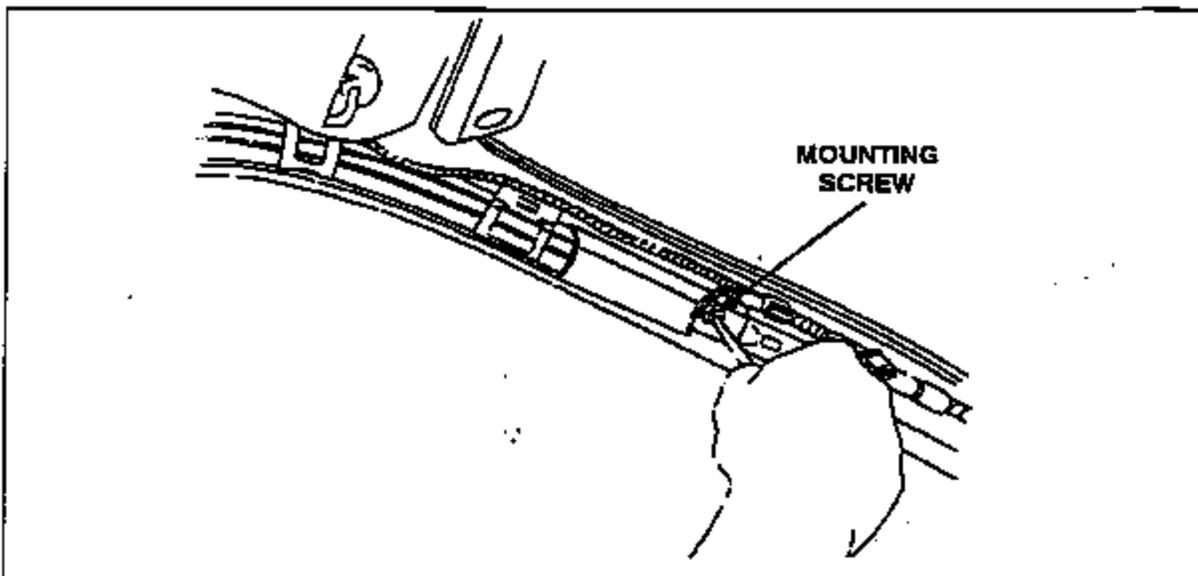

FIGURE 3
7. Remove the rail upper mounting screw. See Figure 3.